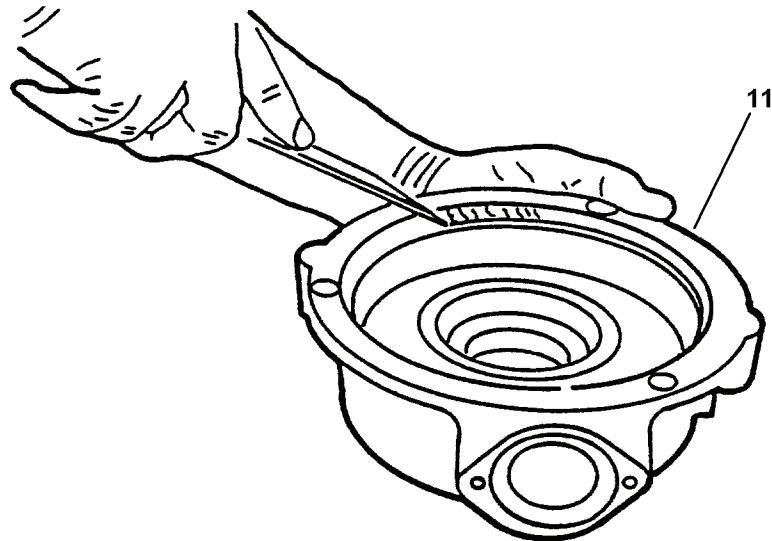
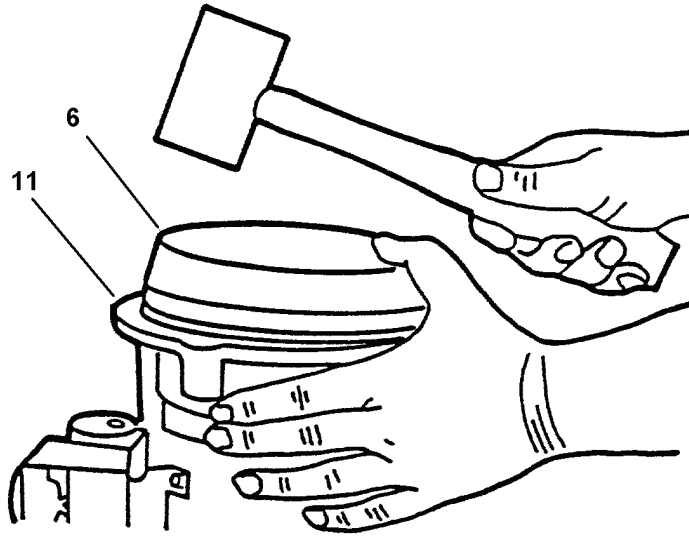

Figure 3-15. Cleaning Upper End Bell.
Figure 3-18. Reseating Stationary Shredder.
- a. Upper end bell (11) and stationary shredder (6) - Prior to reassembly, the stationary shredder and recess in the end bell (11, Figure 3-15) must be thoroughly cleaned to remove all traces of grease, dirt, and mastic. The stationary shredder was originally sealed into the end bell recess with Loctite to prevent turning. A clean rag soaked with paint remover will remove all of this residue.
**Stationary Shredder.** Prior to reinstalling the stationary shredder (6, Figure 3-18), it should be carefully inspected. If cracked, chipped or broken, or if excessive wear is evident, then the stationary shredder should be replaced.
To ensure a trouble free installation, the bottom surface of the stationary shredder (6, Figure 3-18) and the stationary shredder recess in the end bell (11, Figure 3-15) must be cleaned of all old mastic and dirt, to allow the stationary shredder to fit squarely in the upper end bell.
- j. Apply a coating of silicone sealant across the bottom of the stationary shredder (6, Figure 3-18) to form a seal with the upper end bell (11). Position the stationary shredder in the upper end bell, ensuring the scribe marks are aligned. Tap alternately on the upper rim of the stationary shredder (6, Figure 3-18) until it is seated fully in the upper end bell (11).